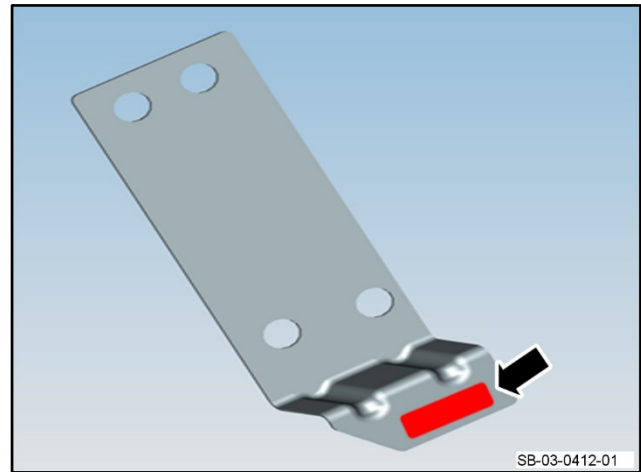

Figure 1
6. Apply an 8 mm bead of Plexus MA300 to the support bracket where shown by the red-shaded area (refer to Figure 1).